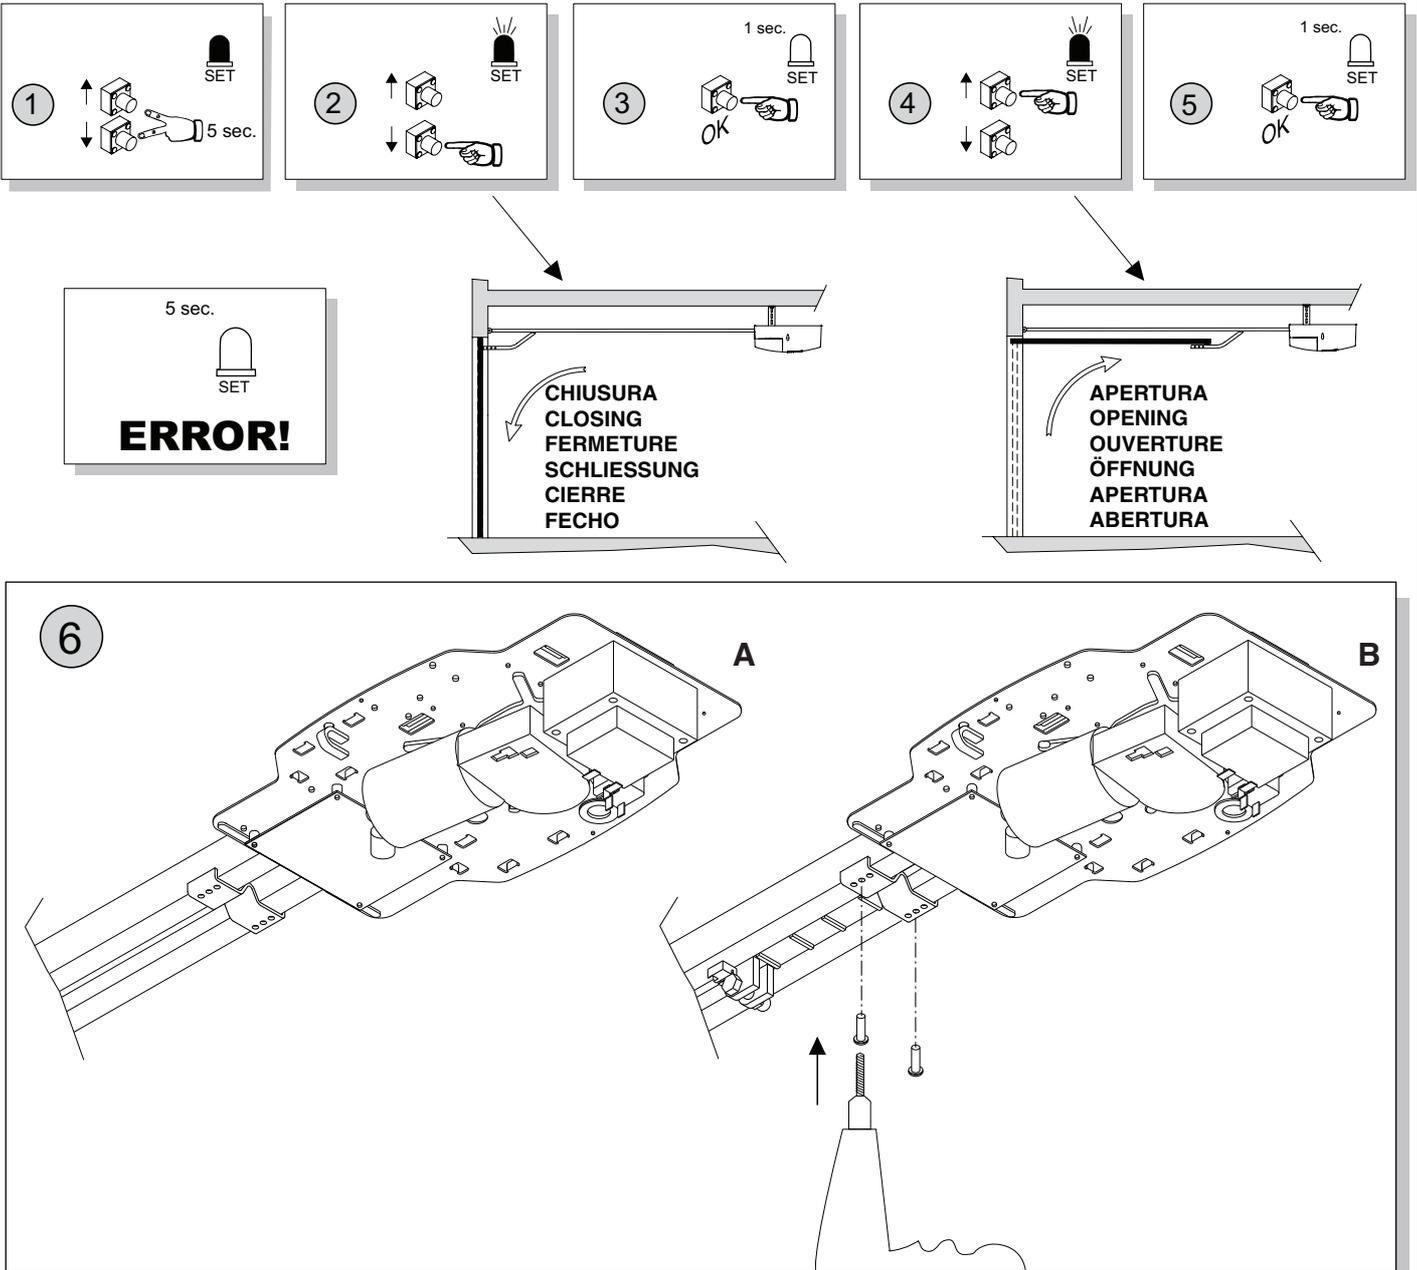

Fig. 19
“UP”: limit device setting and opening command. An autosest operation of the torque will be performed by keeping this button pressed for 5 seconds (Fig.19).
9) OPENING / CLOSING TORQUE AUTOSETTING (Fig.19)